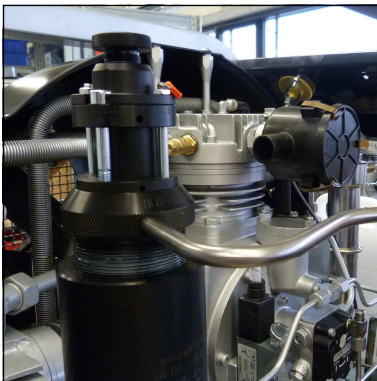

Fig. 1 - Loosen filter housing topcap by using the filter tool
- Remove the end filter topcap (Fig. 1). Remove the filter cover by using the filter tool. The housing can not be opened if still under pressure.